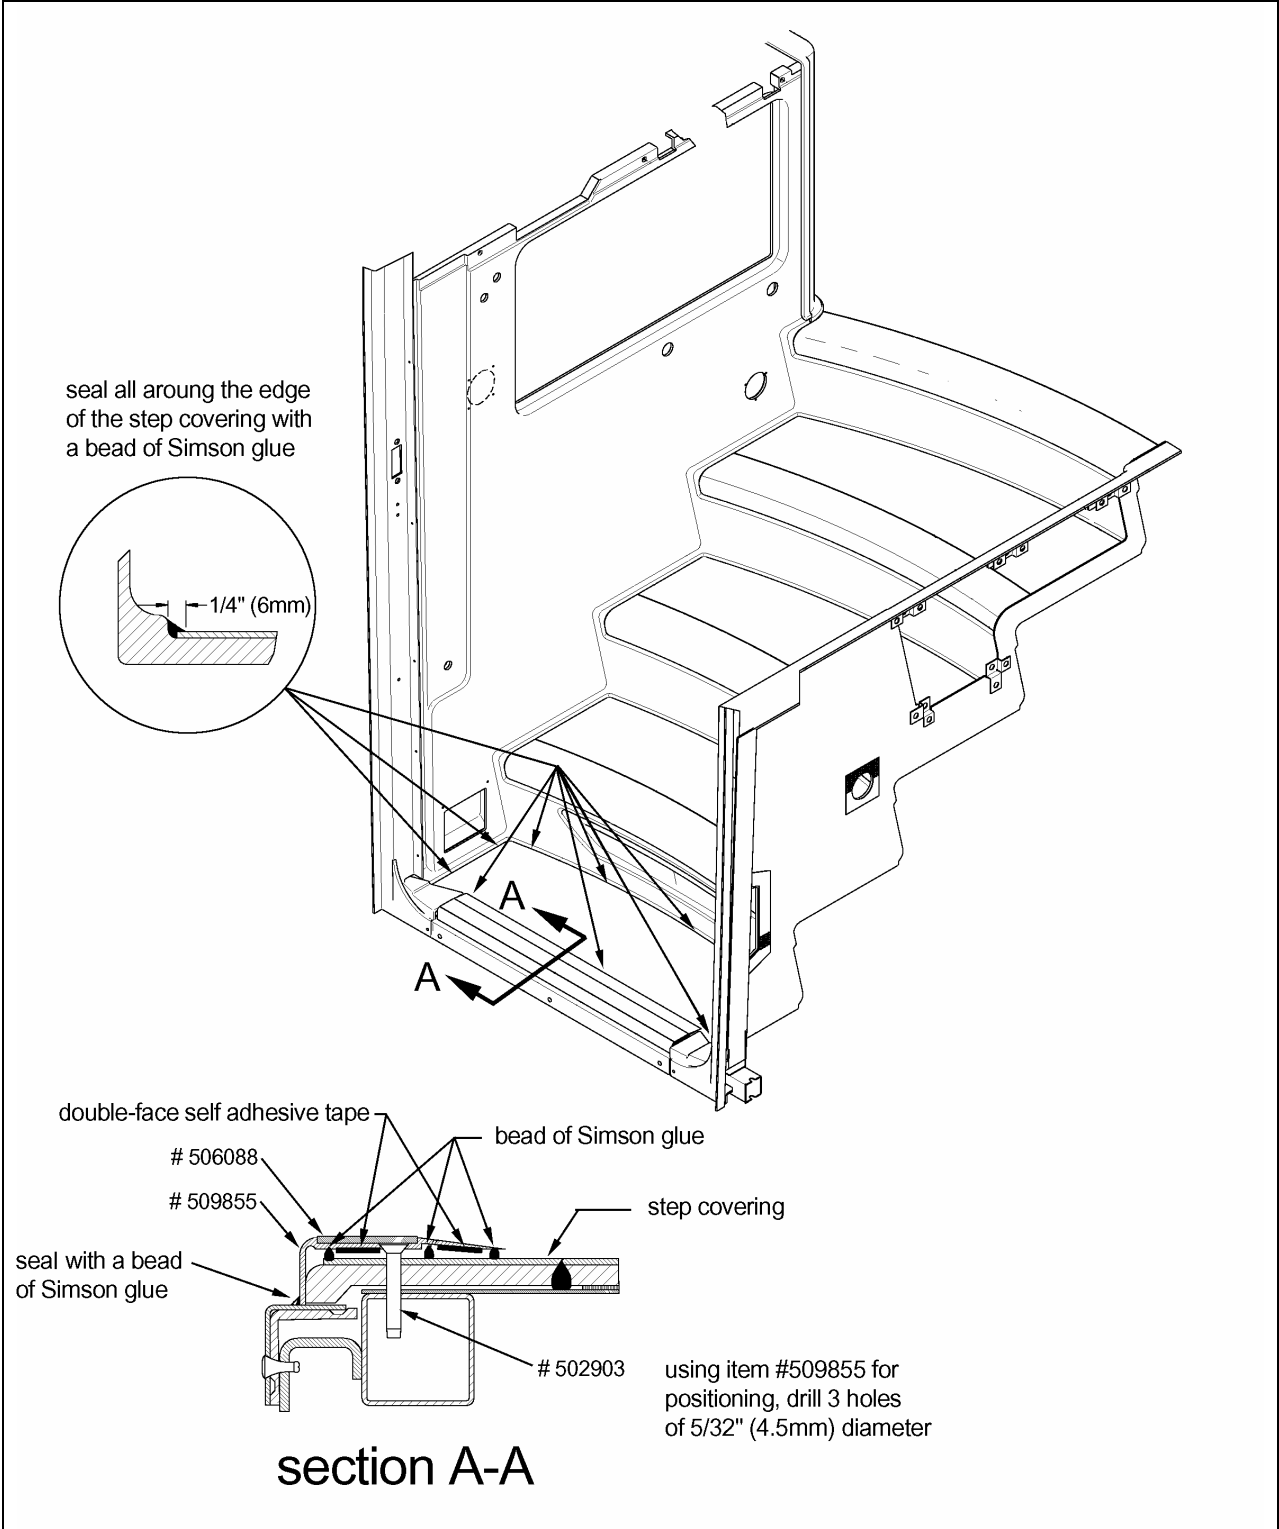

FIGURE 3
3. Apply a bead of Simson glue all around the edge of the step covering as shown in figure 3. Smooth out the joint.
1. Apply 3 beads of Simson glue under extrusion #509855 (see figure 3). Peel off the self adhesive tape protective strip.
2. Place the extrusion on the step as per in figure 3. Press firmly.
8. Apply a bead of Simson glue at the front of the extrusion and smooth out the joint (figure 3, section A-A)